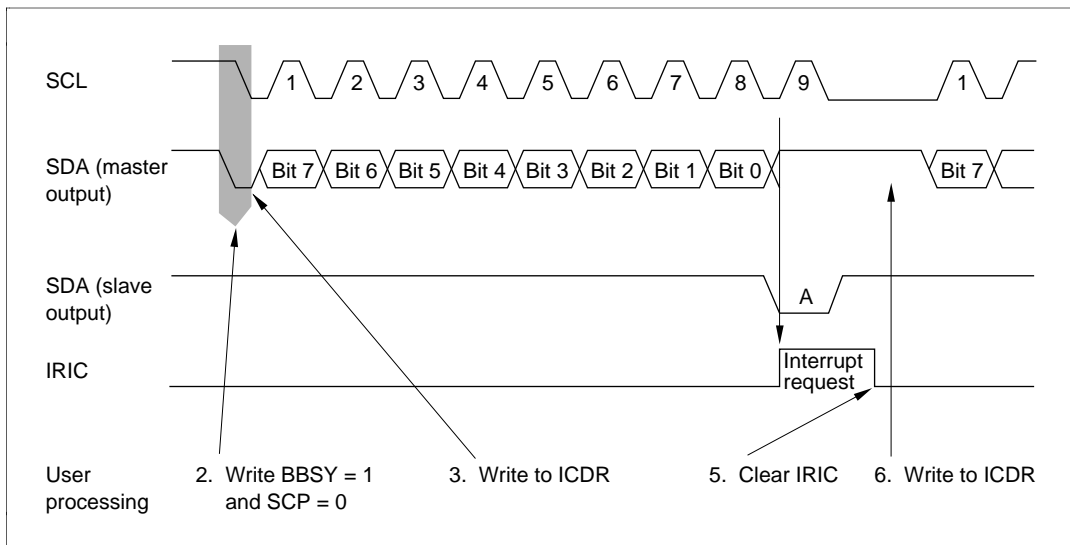

Figure 14-6 Timing in Master Transmit Mode
3. Write data in ICDR. The master device outputs the written data together with a sequence of transmit clock pulses at the timing shown in figure 14-6. If FS is 0 in SAR, the first byte following the start condition contains a 7-bit slave address and indicates the transmit/receive direction. The selected slave device (the device with the matching slave address) drives SDA low at the ninth transmit clock pulse to acknowledge the data.